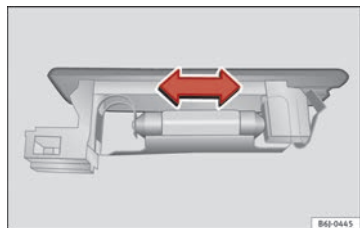

Fig. 188 Luggage compartment light.
- Press the bulb sideways and remove it from its housing ⇒ Fig. 188.